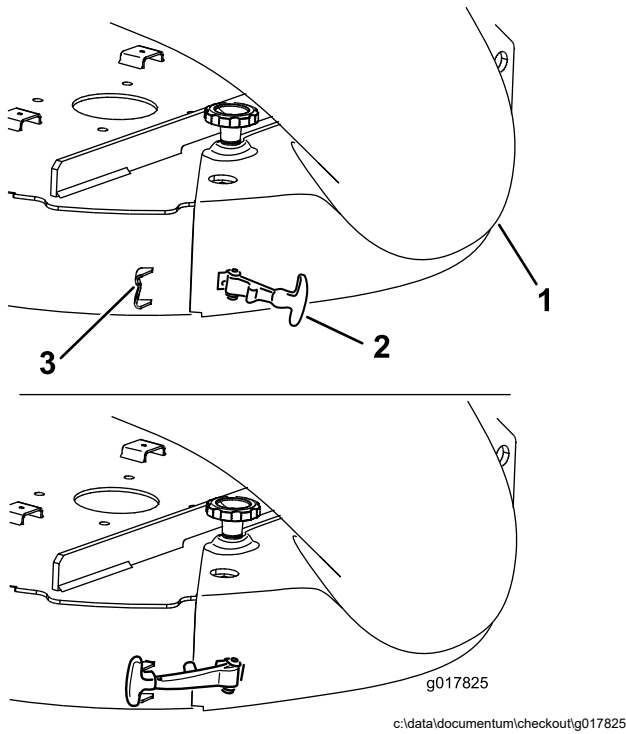

Figure 27
5. Hook the flexible latch on the chute to the retaining clasp welded on the mower deck to the rear of the opening (Figure 27).